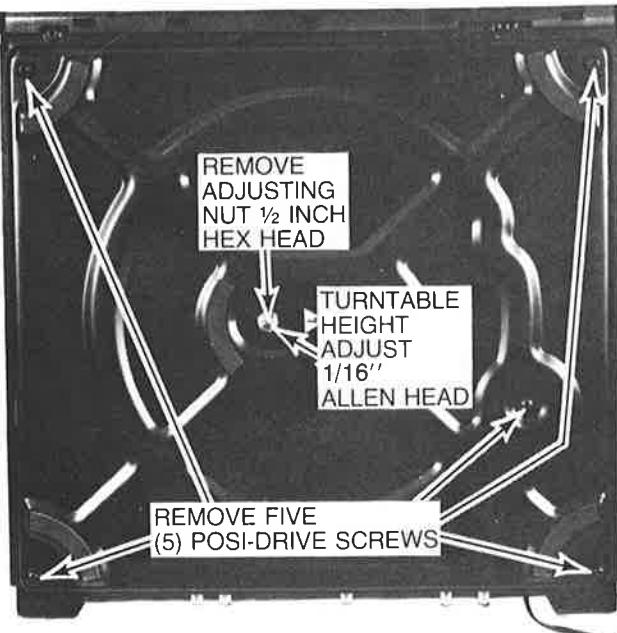

Fig. 10—Bottom Cover
- Remove five (5) posi-drive (+ head) screws Fig. 10.